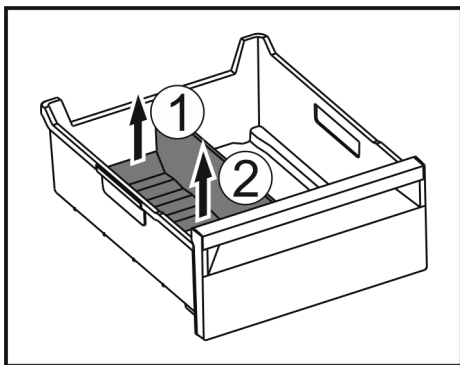

Fig. 114
- ▶ Lift the rear part of the ice compartment divider. Fig. 114 (1)
- ▶ Remove the ice compartment divider upwards. Fig. 114 (2)